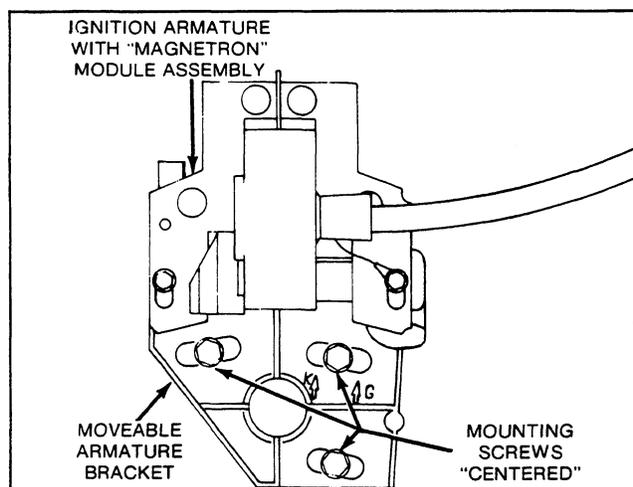

Fig. 29A — Gasoline Operation
1. Gasoline — Position armature bracket so mounting screws are centered in armature bracket and tighten screws, Fig. 29A.